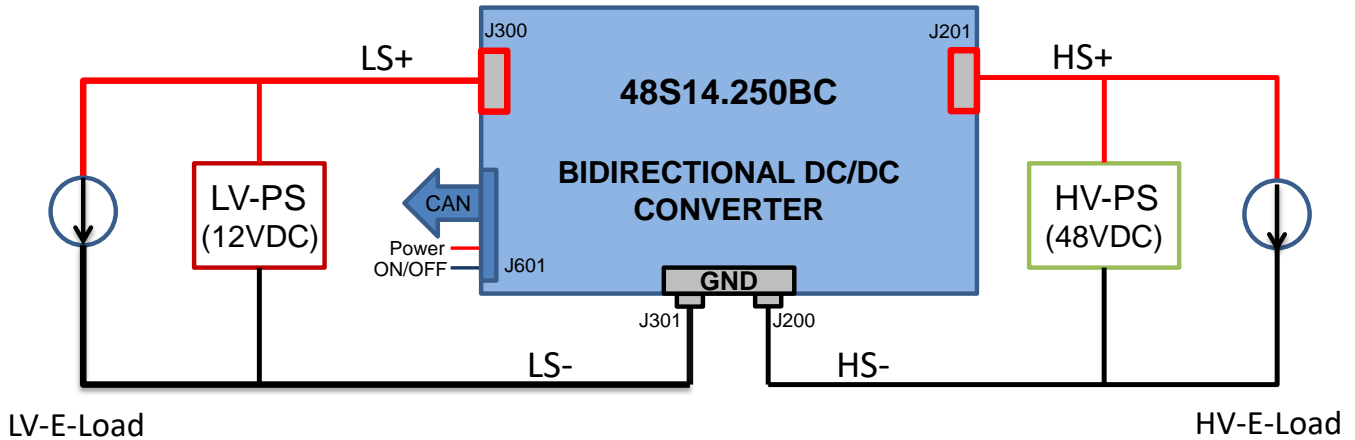

Fig. 2: Test setup for measurements.
Fig. 2: The bench setup used to operate 48S14.250BC and take measurements provided in data sheet. The combination of the Electronic Load (E-Load) and Bench Power Supply (PS) emulates a battery capable of both sourcing and sinking current.